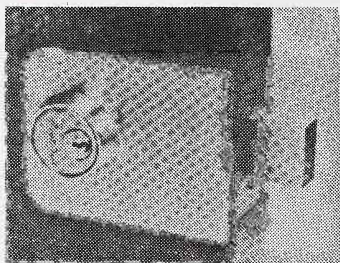

Fig. 18-35.
13. Install the faceplate with the screws provided (Fig. 18-35).